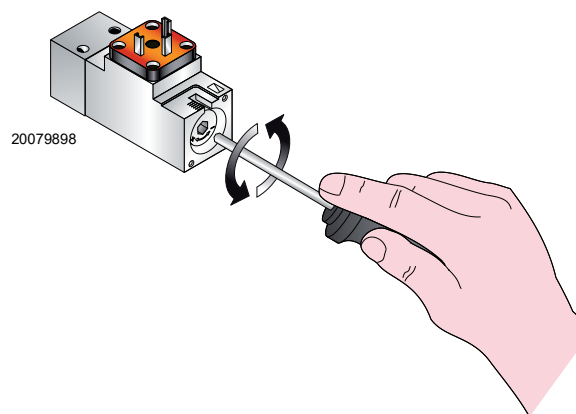

Fig. 41
5.11.5 Maximum oil pressure switch (Fig. 41)